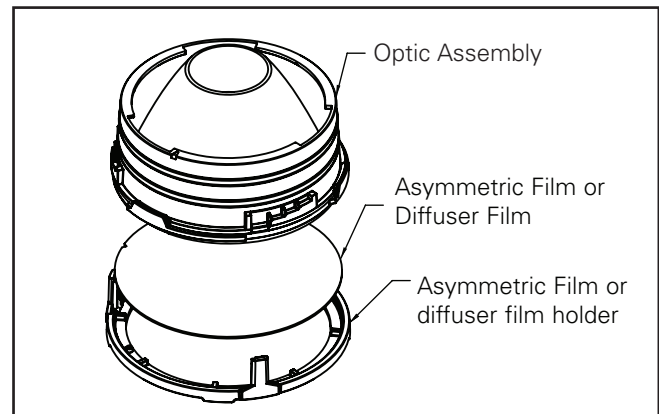

Figure 18
6. To install asymmetric film or diffuser film, follow the steps 1 to 5 with Asymmetry setup. (Figure 18 & 21)